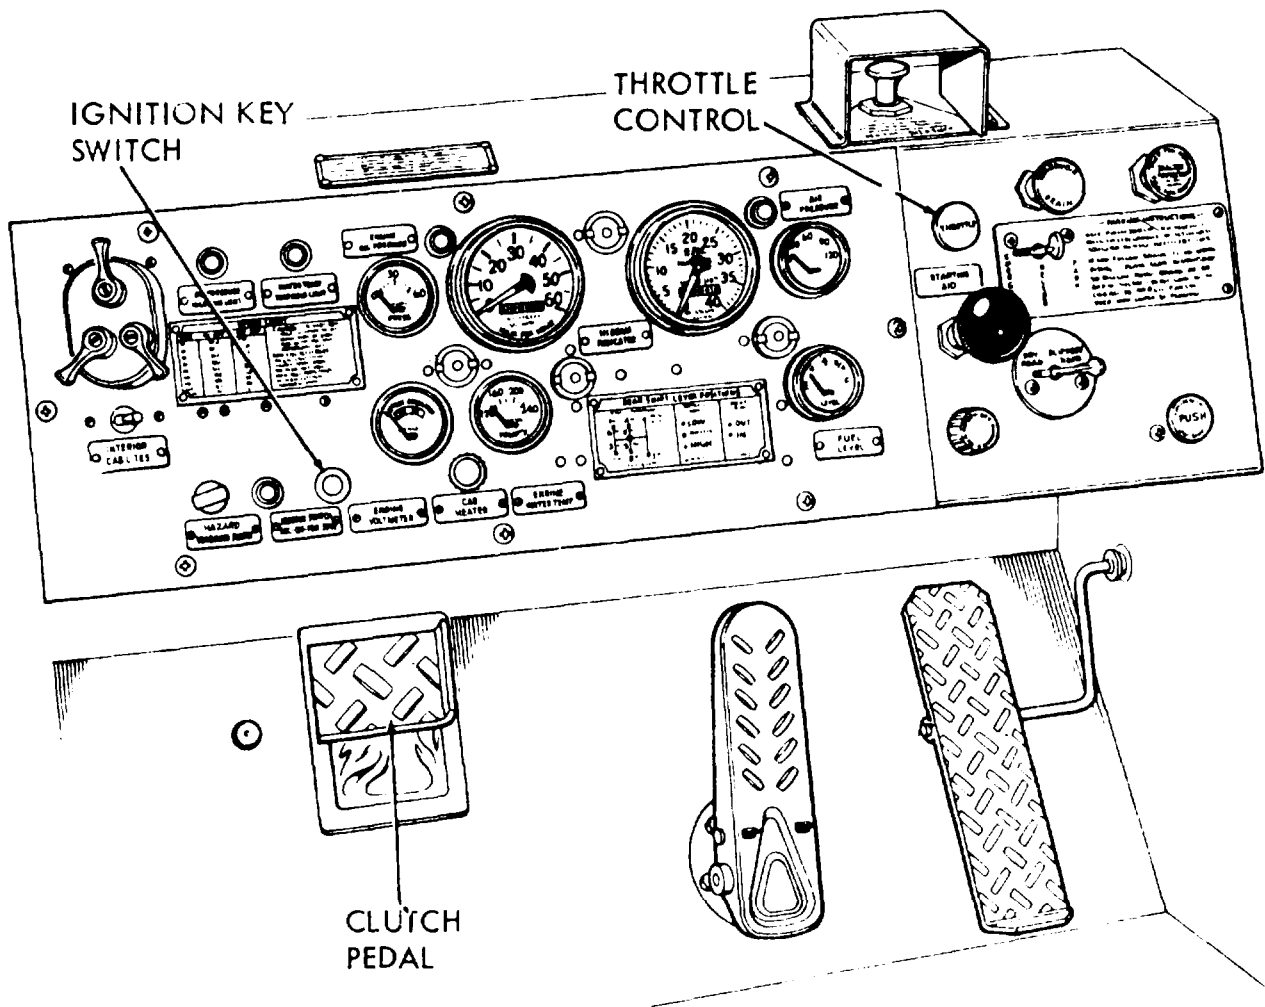

Figure 6-2. Starting the engine.
- (1) Perform the pre-operation services (para 2-1).
- (2) Lubricate the carrier as specified in (LO 5-3810-288-12).
b. *Starting.* Refer to figure 6-2 and start the carrier.